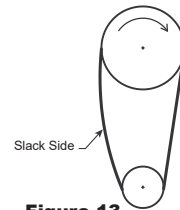

Figure 13
- 8a. Belts should be tensioned just enough to prevent slippage at full load. Belts should have a slight bow on the slack side while running at full load; see Figure 13. Sizes 180-480: Belt tension should be adjusted to allow 1/64 in. (0.397 mm) of deflection per inch of belt span. For example, a 15 in. (381 mm) belt span should have 15/64 in. (5.95 mm) (or about 1/4 in. (6 mm)) of deflection with moderate thumb pressure at mid-point between pulleys, see Figure 13.
Models 2RB65, 2RB66, 3ATT8, 3ATT9, 56MW66, 56MW67, 56MW68, 4YY13, 4YY14, 4YY15, 56JN91, 56JN92, 5DVL4, 5DV06, 6KWJ9, 16D522, 16D523, 16D524, 56MW60, 20FT09, 20FT14, 56MW63, 56MW64, 56MW65: Belts should be tensioned just enough to prevent slippage at full load. Belts should have a slight bow on the slack side while running at full load. See Figure 13.